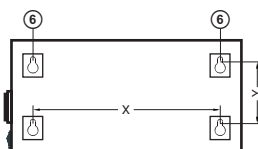

Fig. 3.
- Next, make a mounting fasteners (not included) to the wall, considering the wall mounting holes location ⑥ on the stabilizer rear panel (see Fig. 3).